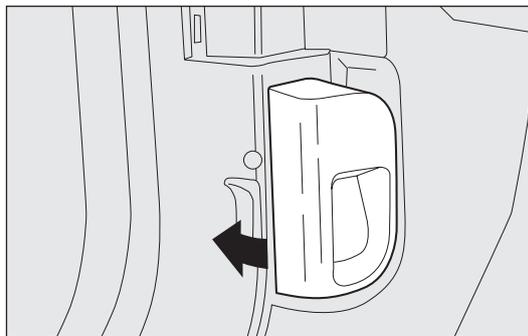

fig. 100
- pull the lever fig. 100 in the direction of the arrow;